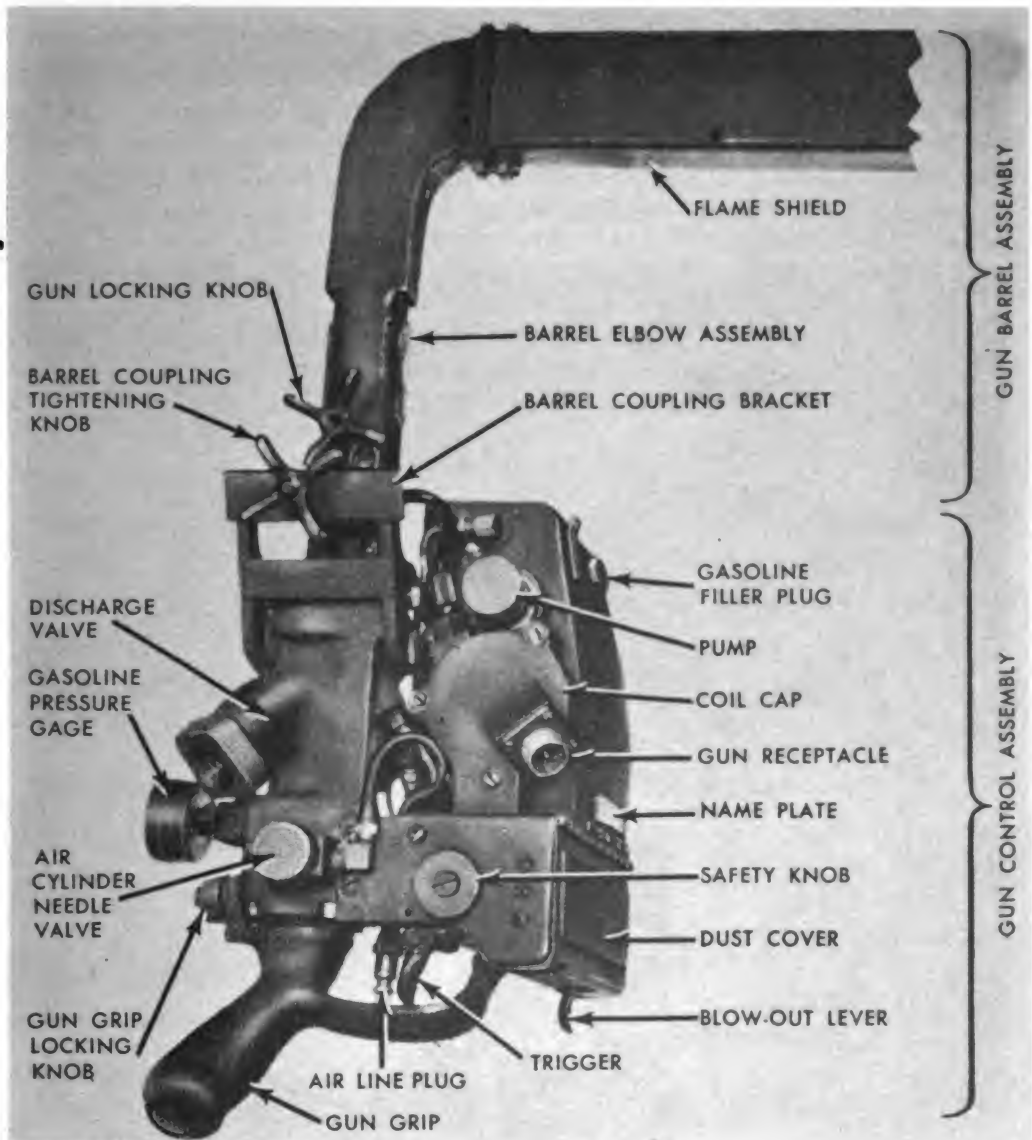
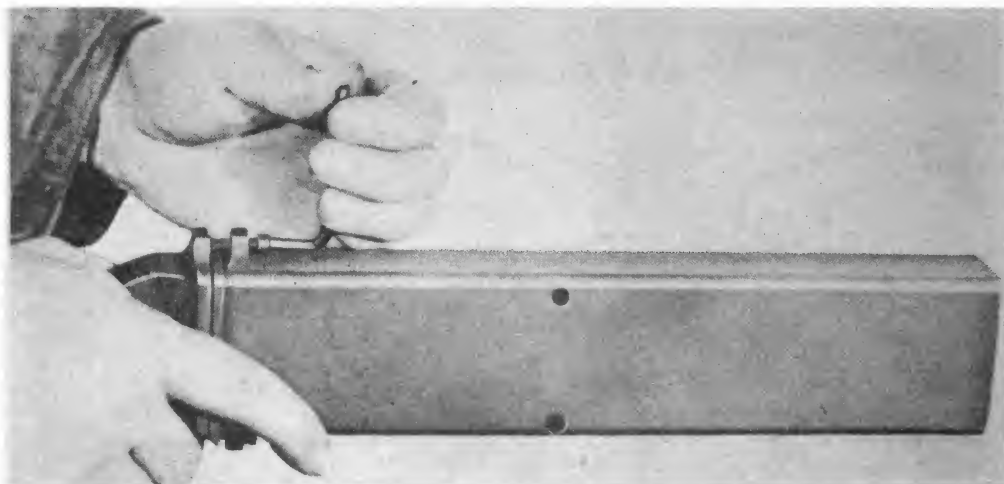

Fig. 61. Mechanized flame thrower gun E6R3.
Fig. 62. Removing cap screws preparatory to removal of flame shield.
- a. General. The gun barrel assembly (figs. 61 and 64) consists of the flame shield, barrel elbow assembly, fuel nozzle assembly, atomizer assembly, and the spark plug and connections.
**a. General.** (1) This shield consists of a rectangular steel tube with a flange at one end. The flange has a lug on the top and bottom which is drilled to receive the cap screws. These screws engage the threads in the holes in the flange of the barrel elbow, securing the shield to the barrel elbow. A gasket is located between the two flanges. At various points on the shield, holes are drilled which serve to supply air to the ignition flame. The shield protects front of gun and also prevents wind from extinguishing ignition flame.
**b. Removal and installation.** (1) To remove the shield from the barrel assembly, remove the two cap screws in the flange, using a socket head wrench (fig. 62), and slide off the shield and gasket.
(2) To install the shield, reverse procedure in (1) above.
a. General. This assembly (fig. 61) consists of a fuel tube protected by a steel housing. In addition to the fuel tube, the housing contains the air and gasoline lines and the spark plug cable. At the nozzle end of the barrel elbow is a flange with two lugs which is used in making the connection to the flame shield. At the lower portion of the barrel el-